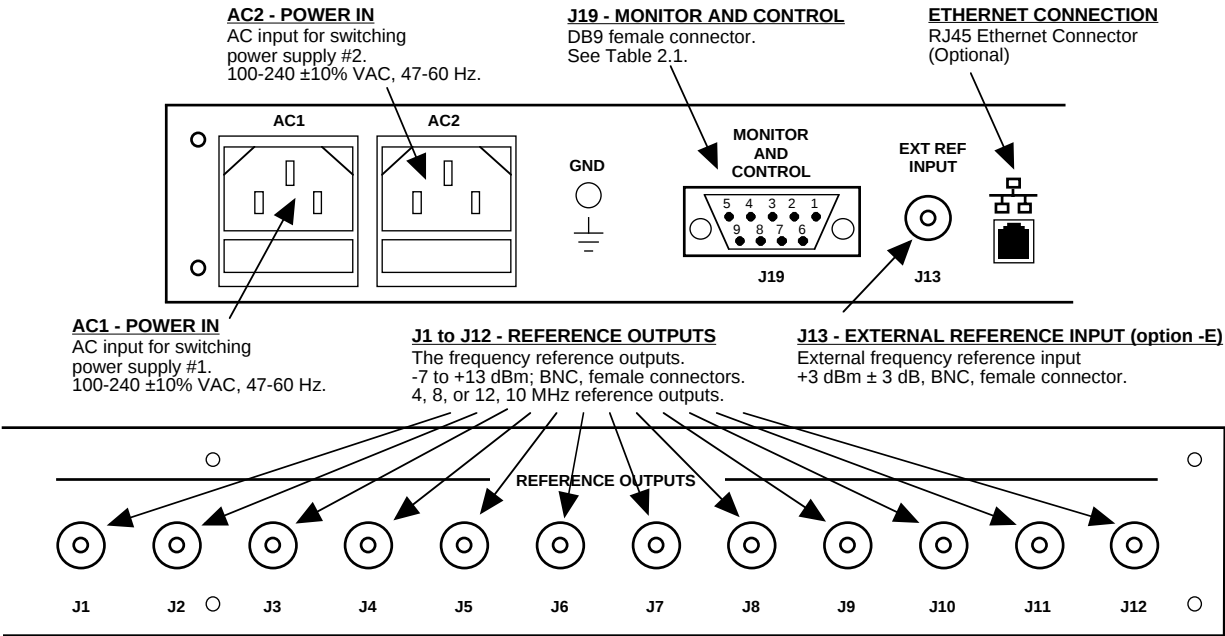
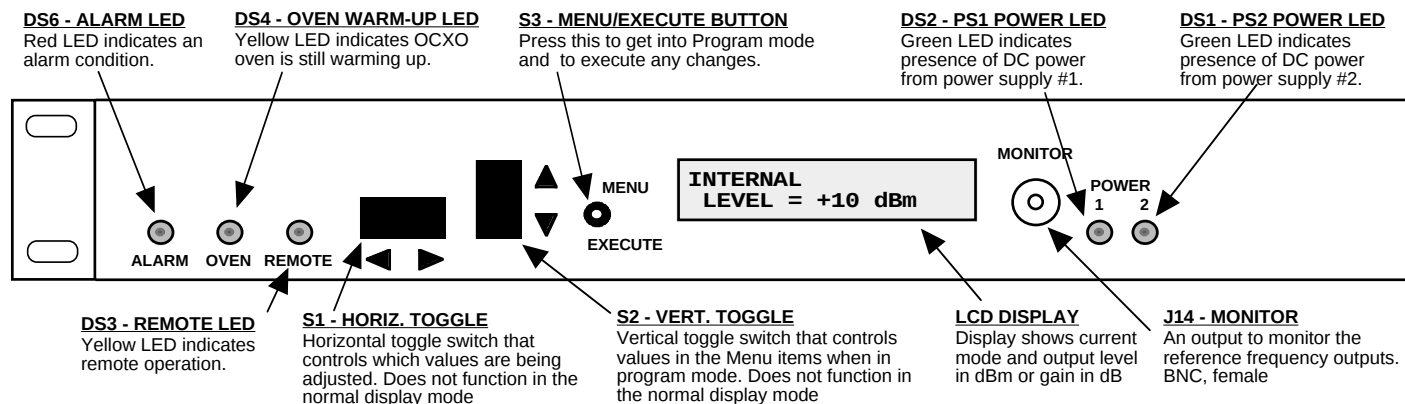

FIGURE 2.1 2099-10xx Rear Panel Outputs
FIGURE 2.2 2099-10xx Front Panel Controls and Indicators
*FAULT occurs when in EXT LOCK AUTO mode and the external reference fails. This status can be reset remotely using the command in Table 1.2 or manually by pressing Menu/Execute followed by pressing up once or down once on the vertical toggle switch on the front panel (see Figure 2.2).
2.2 Rear Panel Output Signals - Figure 2.1 shows the input and output connectors on the rear panel.
1. Connect 100-240 $\pm 10\%$ VAC, 47-63 Hz to AC1 and AC2 connectors (Figure 2.1).
2. Be sure DS1 and DS2 LEDs (green, POWER) are on (Figure 2.2).
5. (option -E only) Choose one of the five (5) modes (Internal, Ext Pass, Ext Pass Auto, Ext Lock, or Ext Lock Auto) in which to operate the unit.
7. Connect J1 thru J4 (REFERENCE OUTPUTS) to desired equipment (Figure 2.1).
8. Monitor reference output signal with J14 (MONITOR) (Figure 2.2).
Alarm indications appear on the LED (see Figure 2.2).